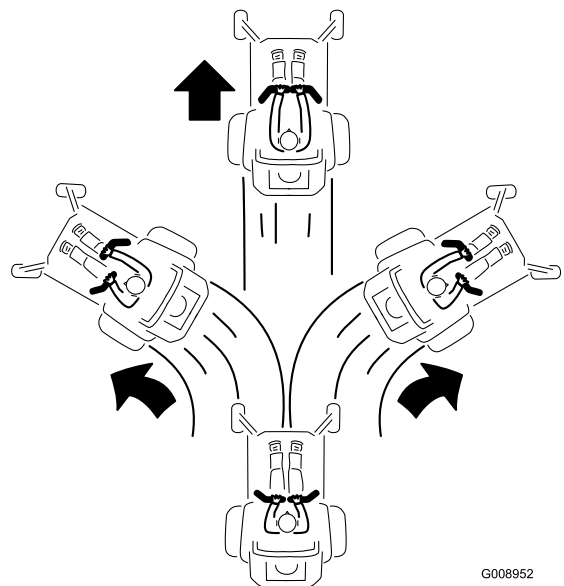

Figure 23
2. To go forward, slowly push the motion-control levers forward (Figure 23).